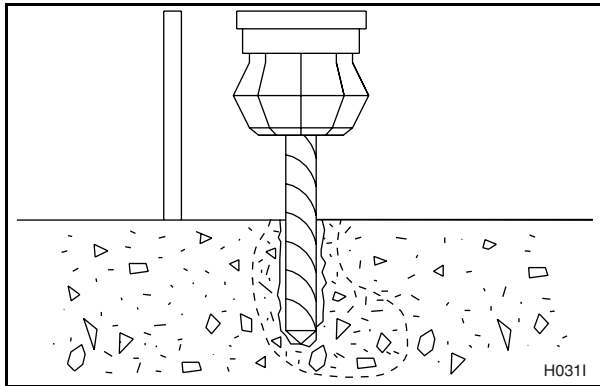

Figure 24
4. Drill and chisel out a conical hole large enough to accept the J-bolt. See Figure 24.